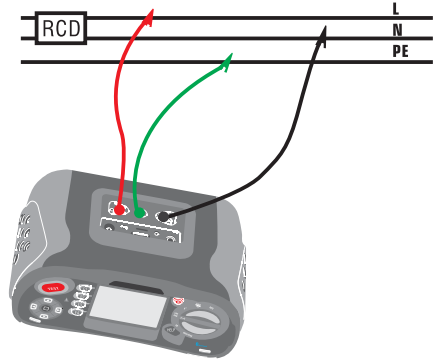

Figure 15 RCD Measurement-Test lead connection
- 4-Connect test leads as shown in the *Figure 15*
- 4-Connect the test leads as shown in *Figure 15*